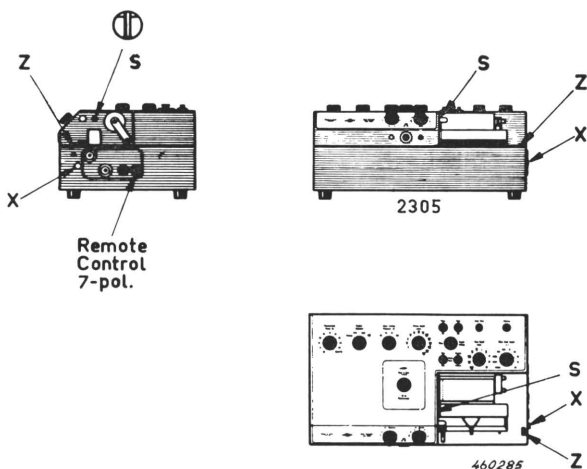

Fig. 4.8 Level Recorder Type 2305 with identification of Synchronising Gear Lever X, Screw S and Finger Wheel Z.
1. Turn the screw S shown in Fig.4.8 with the aid of a screwdriver, until marking cut in the screw is in its upper position.